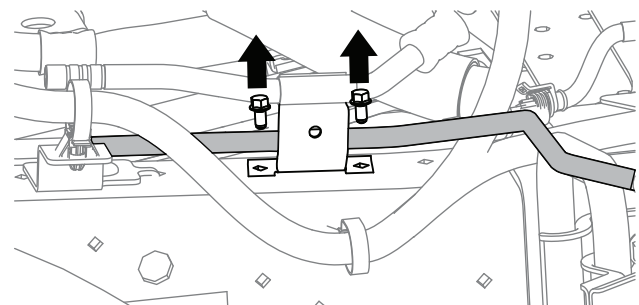

Figure 2
4. If your vehicle contains an AC mounting bracket as shown in Figure 2, the fasteners mounting the AC line may need to be loosened.